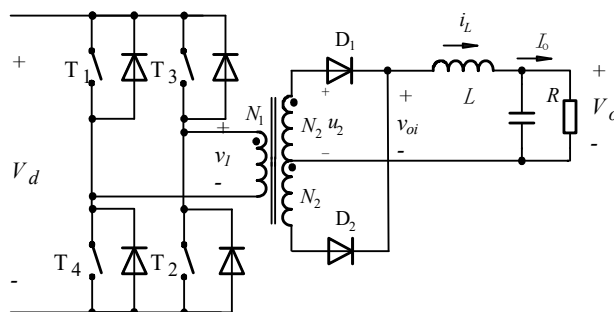

Fig.1
3.(6分)Full-bridge isolated DC-DC converter operates in a continuous-conduction mode are shown in Fig.1. Answer the following questions: 全桥隔离 DC-DC 转换器以连续导通模式运行,如图 1 所示。回答以下问题: